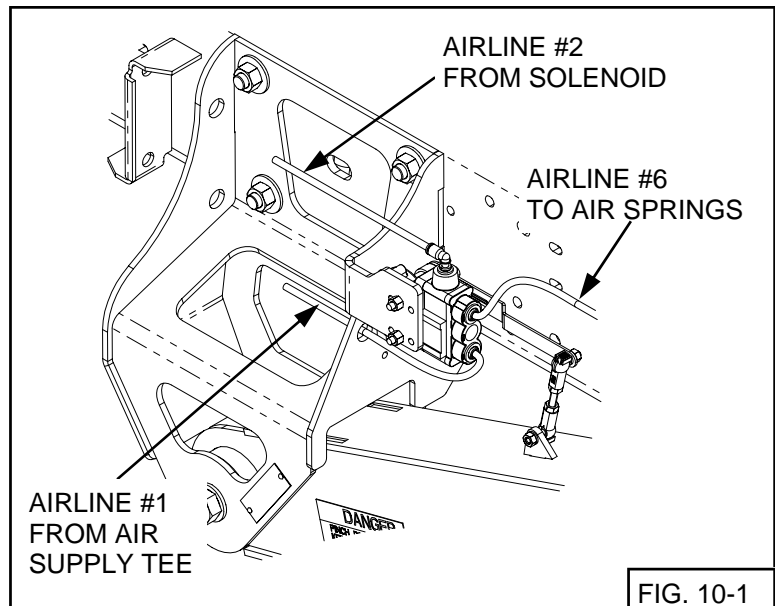

FIG. 10-1
2. Route the (5) airlines as shown in Figure 10-1, 10-2 and 10-3.